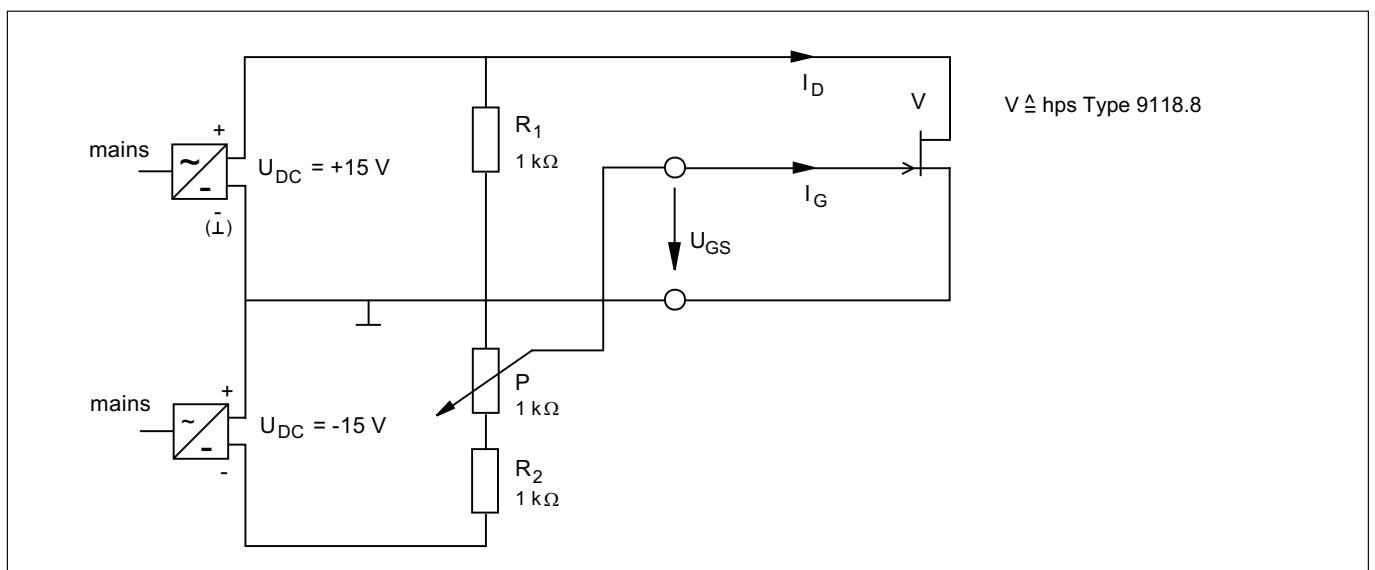

Fig. 5.3.2.1
- Set up the circuit according to Fig. 5.3.2.1 and adjust the gate/source voltage U_{GS} in steps according to Table 5.3.2.1.